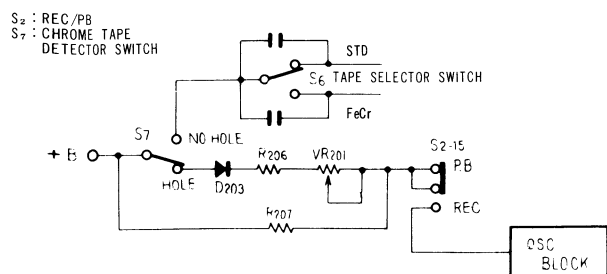

Fig. 6 Recording bias changeover circuit
• Recording Bias Switching Circuit (Fig. 6)